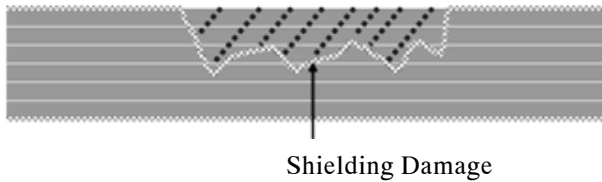

Figure 49. Shielding Damage
- a. Identify scope of shielded harness area to be repaired (Figure 49).